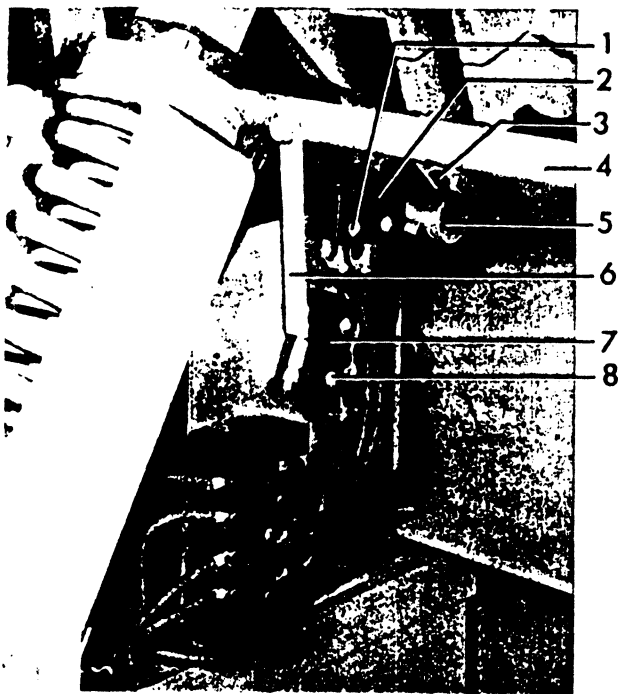

Figure 10. (8024689) Interlock Switch and Latch Checking Switch
Referring to Figure 10, rotate the interlock shaft (4) manually clockwise to release the interlock switch arm (6). The point at which the contacts make can be determined with a circuit continuity tester such as a light indicator or bell set. To obtain adjustment on the interlock switch (7), bend the interlock switch arm (6). The roller and crank on the interlock switch should have 1/32" to 1/16" overtravel after final adjustment.